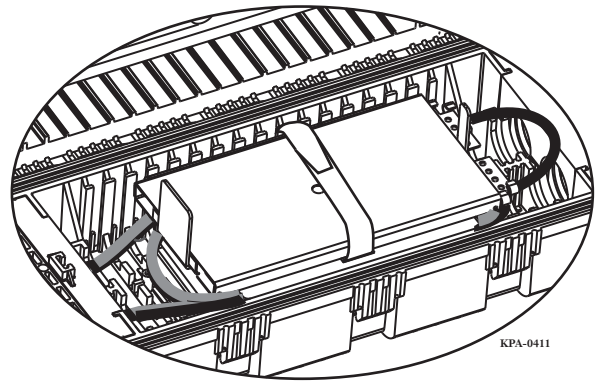

Figure 30
- Step 4:** Rotate the tray stacker down. Secure the tray(s) in the stacker with the hook-and-loop strap provided (Figure 30).